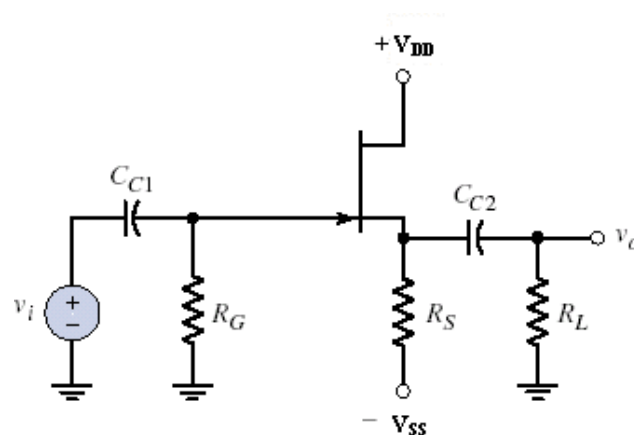

Figure 3: Common-Drain Amplifier
The common-drain (CD) amplifier is shown in figure 3. The common-drain configuration is often called a source follower as the voltage gain is nearly unity. The common drain FET amplifier is similar to the common collector configuration of the bipolar junction transistor.